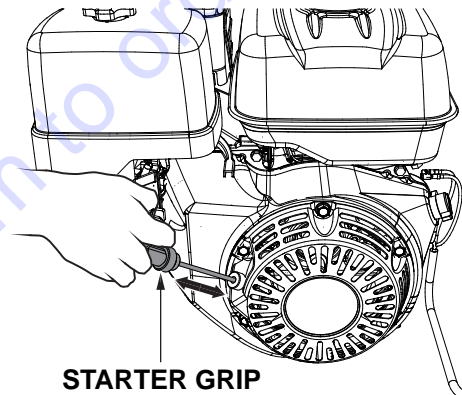

Figure 22. Starter Grip
- Pull the starter grip (Figure 22) lightly until you feel resistance, then pull briskly. Return the starter grip gently.